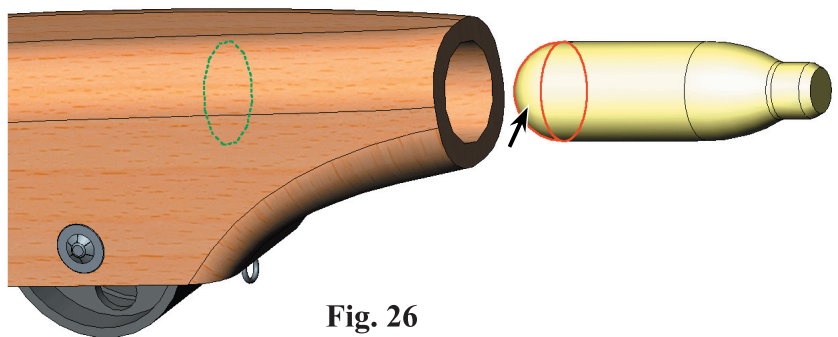

Fig. 26
Step 6. Use the arrows on the keyboard to rotate assembly to view the bottom face of the cartridge, Fig. 26.
Step 7. Click **bottom face of the cartridge**, Fig. 26.